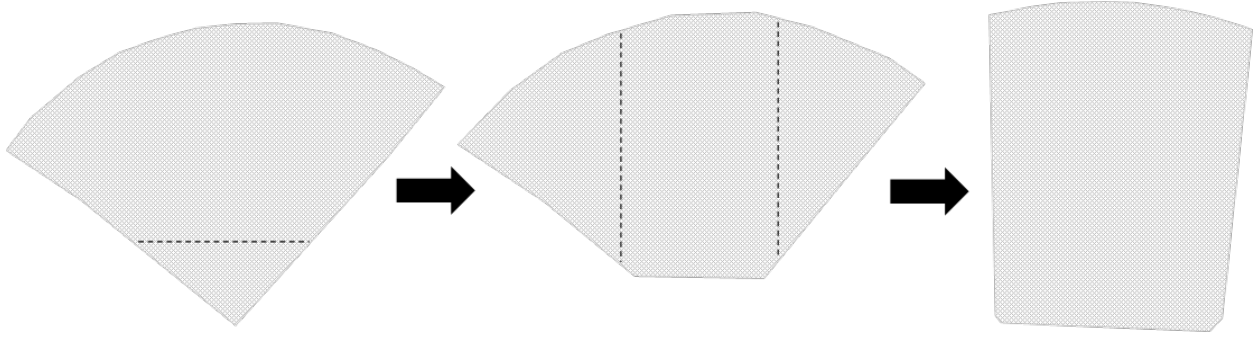

Figure 12: Reference image for cutting the plate. The dotted lines represent the location to be cut with the scissors.
5. Use the scissors to cut about one inch off the pointed tip of the plate pieces. See Figure 12 for reference.
7. Remove the pieces, overlap them, and use the scissors to make two more cuts up each side of the triangular pieces to create rectangular pieces. See Figure 12 for reference.